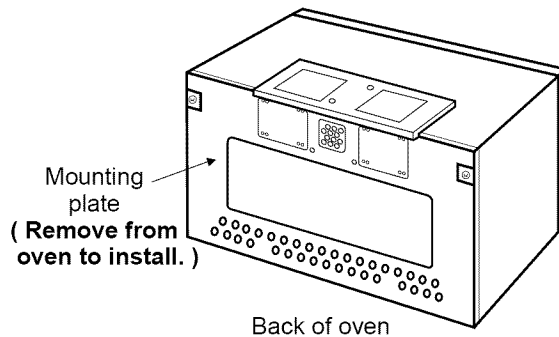

Figure 1
- Write the model & serial numbers on the owner's manual. The model number label is located on the oven front. The mounting plate is located on the back side of the microwave oven. See Figure 1.